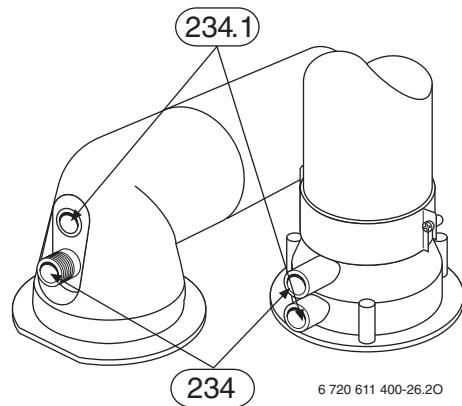

Fig. 39
- ▶ Switch on the appliance at the master switch (I).
- ▶ Unscrew sealing plug from flue gas testing point (234). Refer to fig. 39.